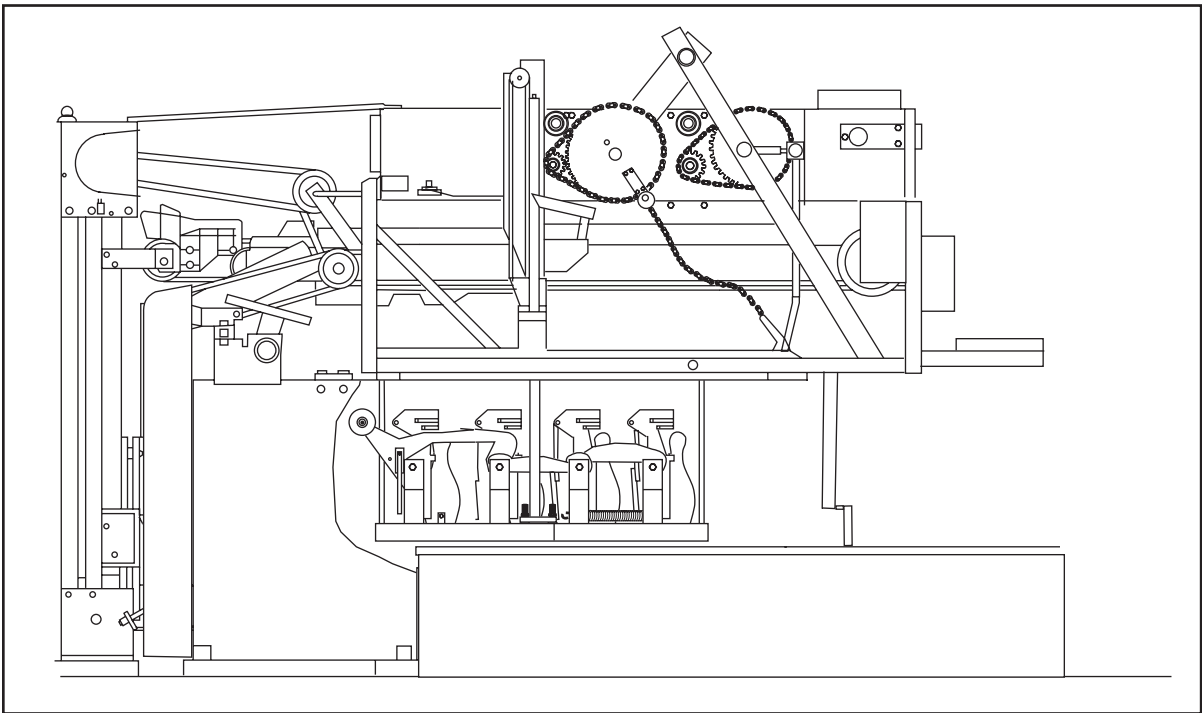

Figure 1-14 Setting New Pins
- C. Receive pins from the distributor and set them on the lane for a new frame. *Figure 1-14.*